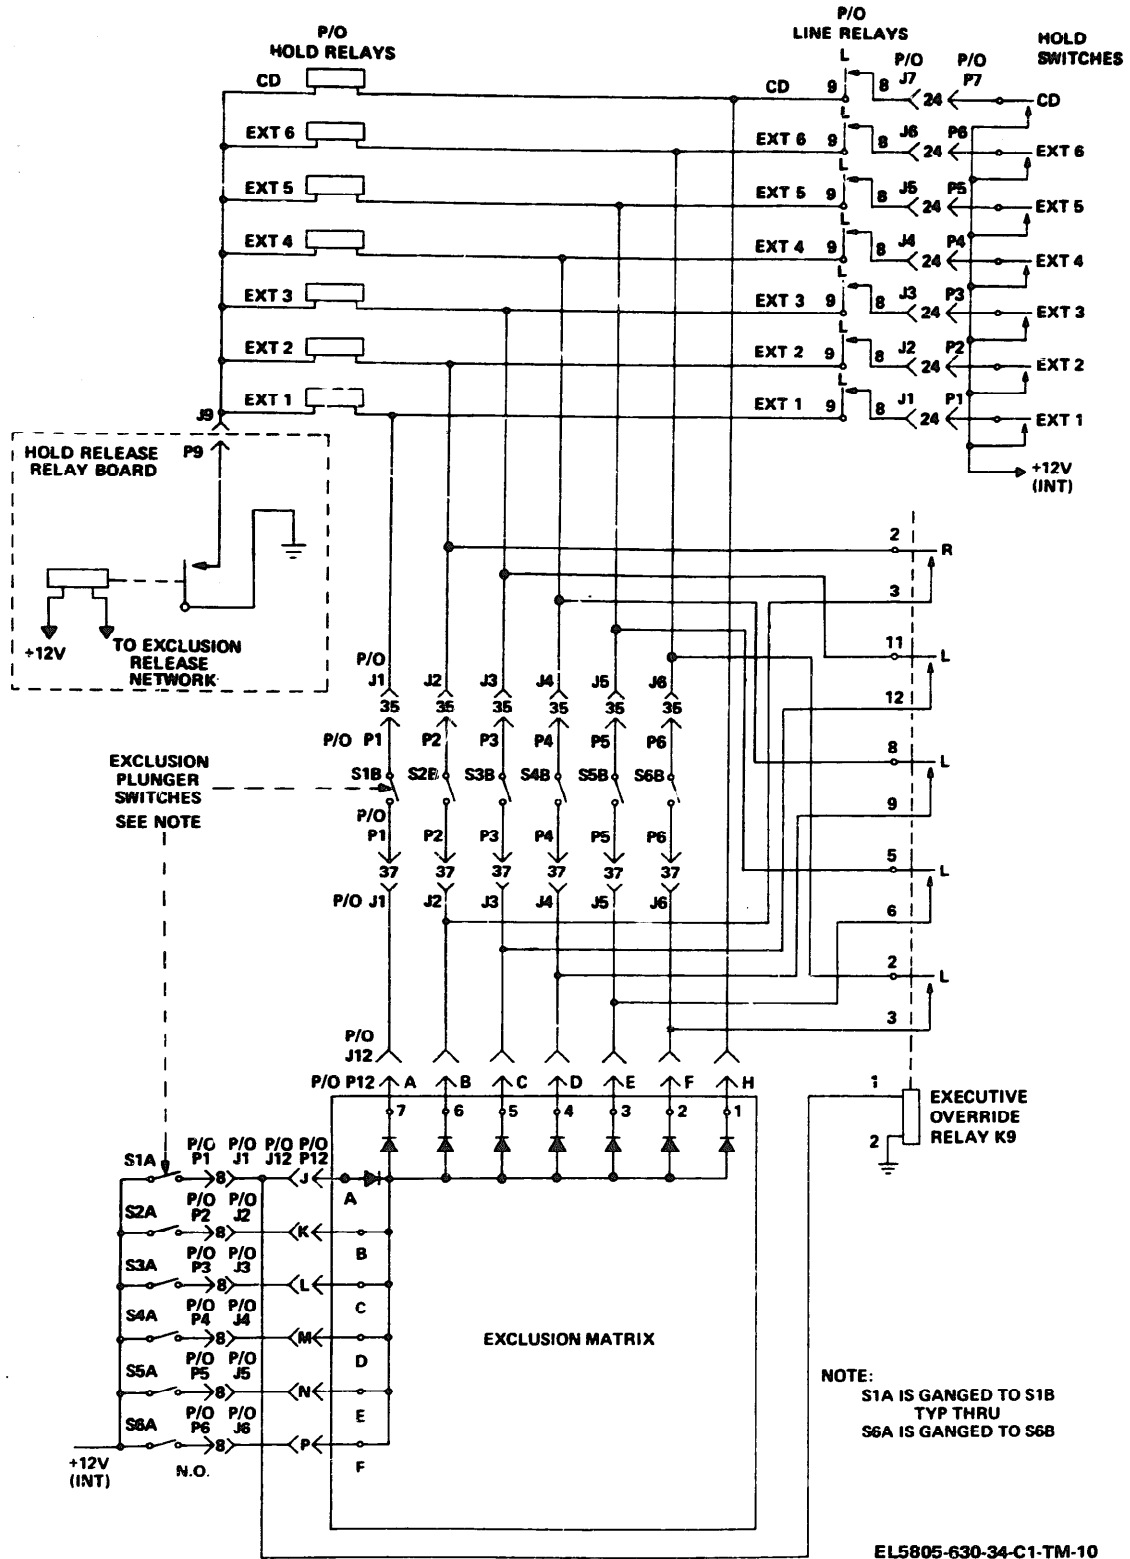

Figure 2-10. Simplified schematic diagram, extension telephone, executive override circuit.
f. Executive Override Feature (fig. 2-10). Executive override is a function of extension phone number 1 (or the other identical extension phones if connected into logic set receptacle J1). The executive override circuitry allows extension phone number 1 to exclude all other exten-